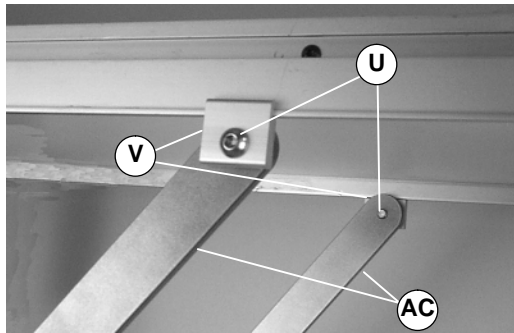

Figure 12
7a. Loosely attach brace bars (AC of Figure 12) to conveyor using clips (V) and screws (U).